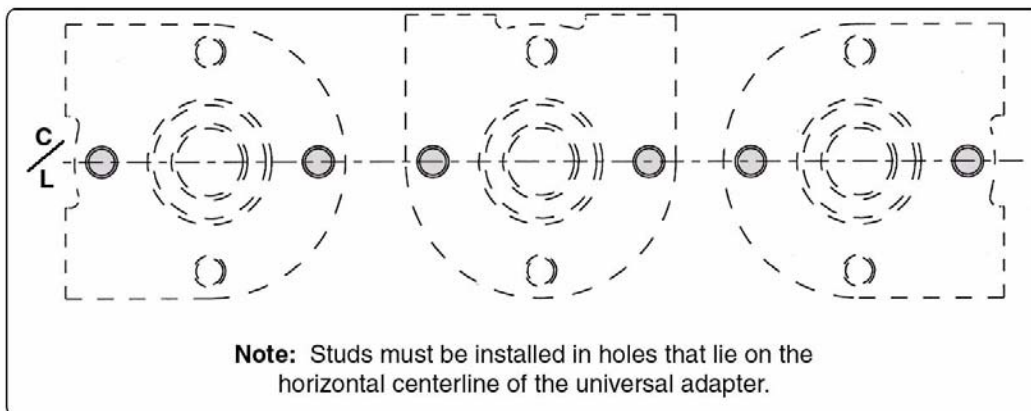

Figure 3-8: Universal Mount Adapter Positions
4. Select the proper mounting adapter orientation and using the $\frac{7}{16}$ "14 x 1.0" screws attach the universal mounting adapter to the apparatus. (See Figure 3-8: "Universal Mount Adapter Positions.")
5. Apply a light coat of thread locking compound (Loctite #290 or equivalent) to one end of the $\frac{7}{16}$ "14 x 1-3/4" studs. Install the studs in the horizontal holes on the universal adapter. (See Figure 3-8: "Universal Mount Adapter Positions.")